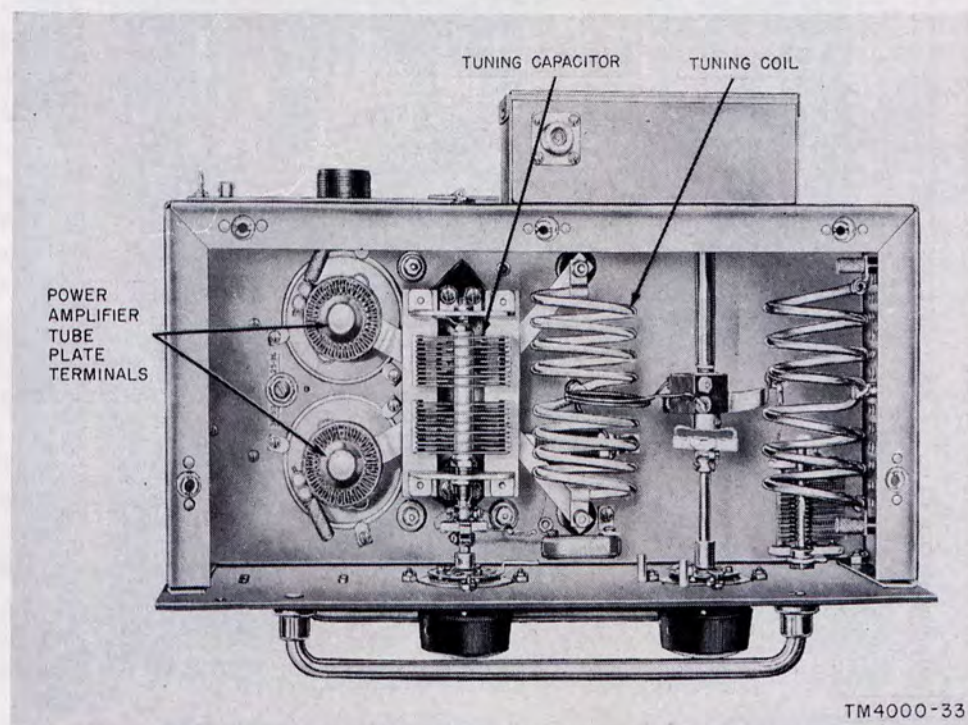

Figure 4. Transmitter RF section, showing high-voltage danger points.
e. In figure 4, a different transmitter is shown with radio frequency (RF) as well as the dc danger points. Both dc and RF voltages normally appear at the power amplifier tube plate caps and the tuning coil and tuning capacitor.